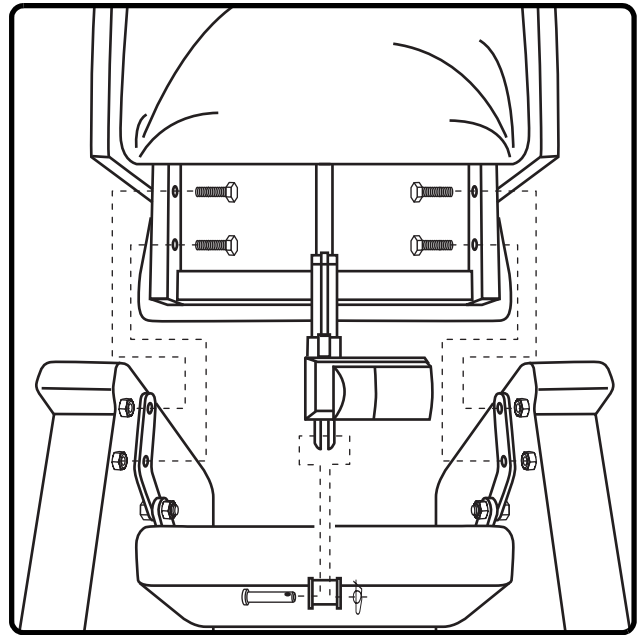

Figure 4.2 Lift Chair Assembly
3. With the pillow side of the chair-back and the lift chair armrests both facing the same forward position, position the chair-back between the chair base brackets, aligning the threaded bolts with the holes in the brackets. Insert the threaded bolts into the bracket holes and reinstall the nuts from step 1. Torque the nuts to 53 N•m (12 ft/lbs) to tighten securely (**Fig. 4.2**).